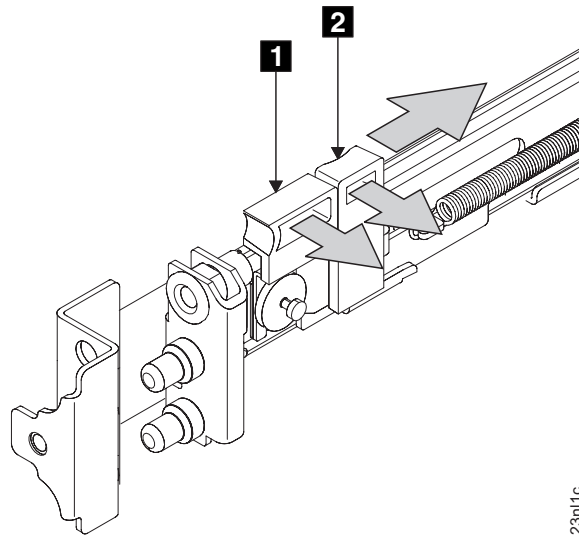

Figure 64. Opening the front latch-lock carrier assembly
3. Gently push the latch lock **2** away from the rail as you move the latch lever **1** toward the far end of the rail (Figure 64 on page 79). The latch-lock carrier assembly slides against the spring tension.